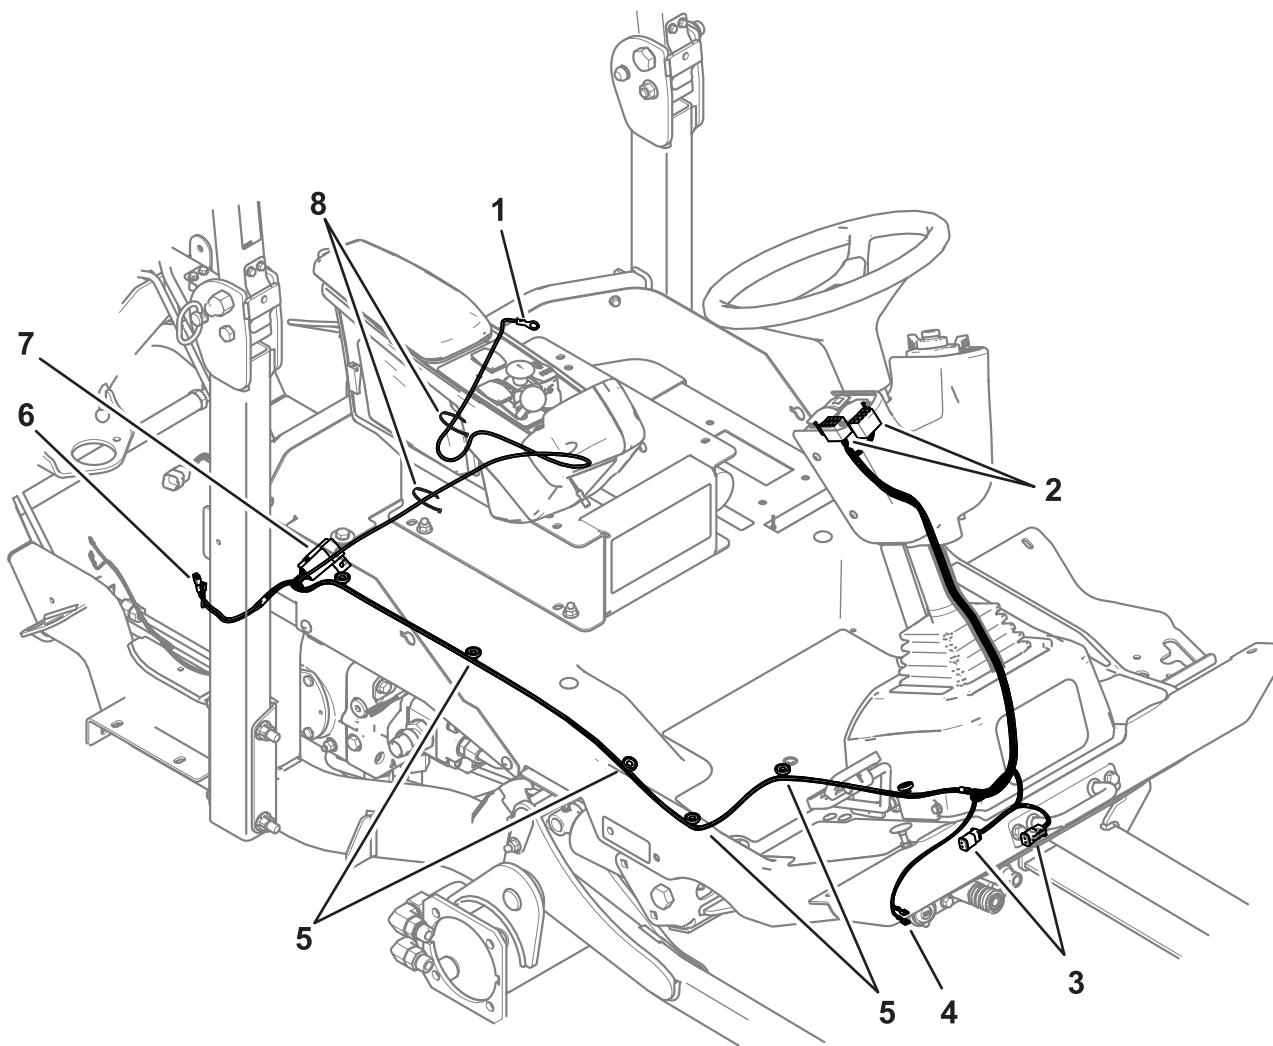

Figure 8
8. Connect the wire harness to the 12V port (**Figure 8**).
9. Connect the wire harness to the kit solenoid connectors (**Figure 8**).
10. Route the harness along the machine frame and use the magnetic clips to hold it in place (**Figure 8**).
11. Connect the wire-harness power connector to the main machine-harness cab-power connector, which is located near the right roll-bar post and adjacent to the pump pulley (**Figure 8**).